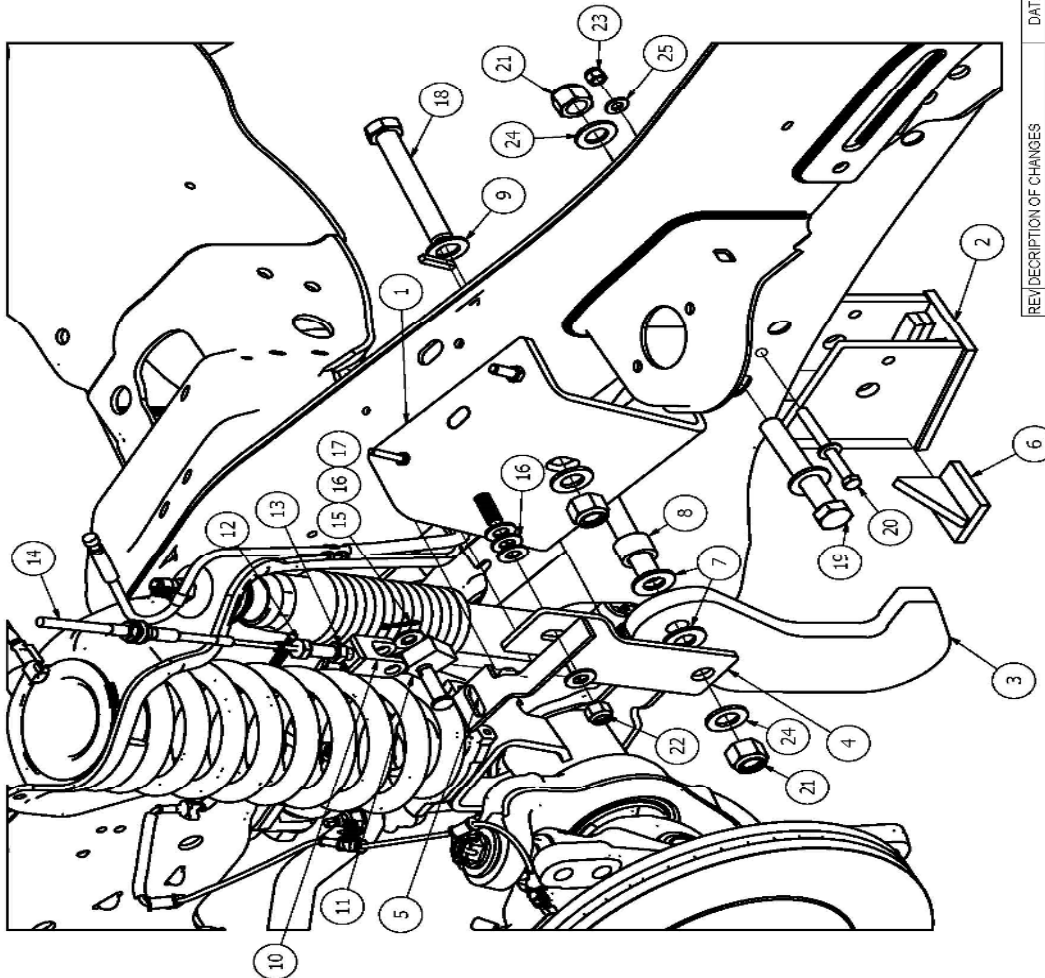

Figure 2
2. Pop out wiring clips, grounding stud, etc. on top of the frame so that the bracket will sit flat on the frame. A brake clip and a grounding stud are located on the bracket for re-installation. The pop rivet can be removed from the brake clip and installed on the bracket with supplied hardware. See Fig. 2 for clip and pop rivet.